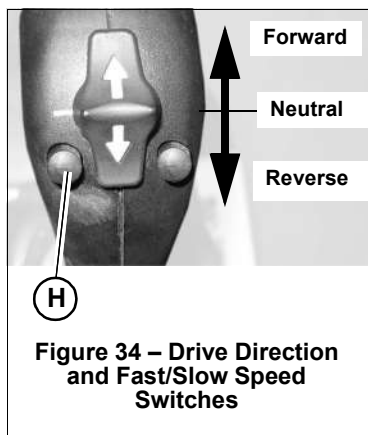

Figure 34 – Drive Direction and Fast/Slow Speed Switches
⚠ WARNING Do not move the drive direction switch (Fig. 34) while traveling. The machine may react suddenly, causing an accident.
5. (AL 300, AL 400, AL 500 Series) Select either the high or low drive speed using the slow/fast speed switch (H, Fig. 34) according to the job and work site conditions.